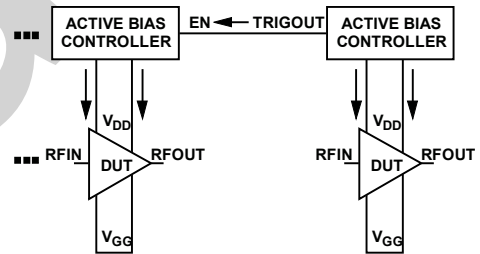
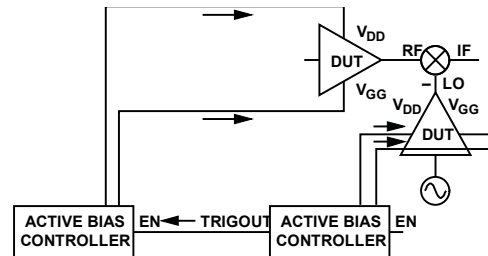

Figure 21. Daisy-Chain Configuration with Two Amplifiers in Cascade Configuration
Figure 22. Daisy-Chain Configuration Where Amplifiers Are in Different Signal Paths
Where multiple active bias controllers are controlling multiple cascaded RF amplifiers, they can be used in a daisy-chain configuration. The TRIGOUT output of the active bias controller activates when the V_{DRAIN} , V_{G2} , and V_{GATE} output voltages settle. Using the TRIGOUT signal to enable another bias controller with the enable pin (EN), improves system safety. A daisy-chain configuration has many applications, Figure 21 and Figure 22 show two applications. The number of amplifier stages and bias controllers can be increased.